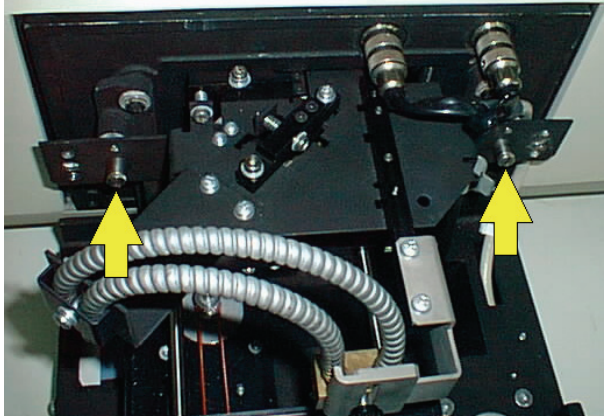

Figure 61 Attaching the optical assembly
8. Attach the optical assembly to the Plate Reader and tighten the two screws which secure it, as shown in Figure 61.